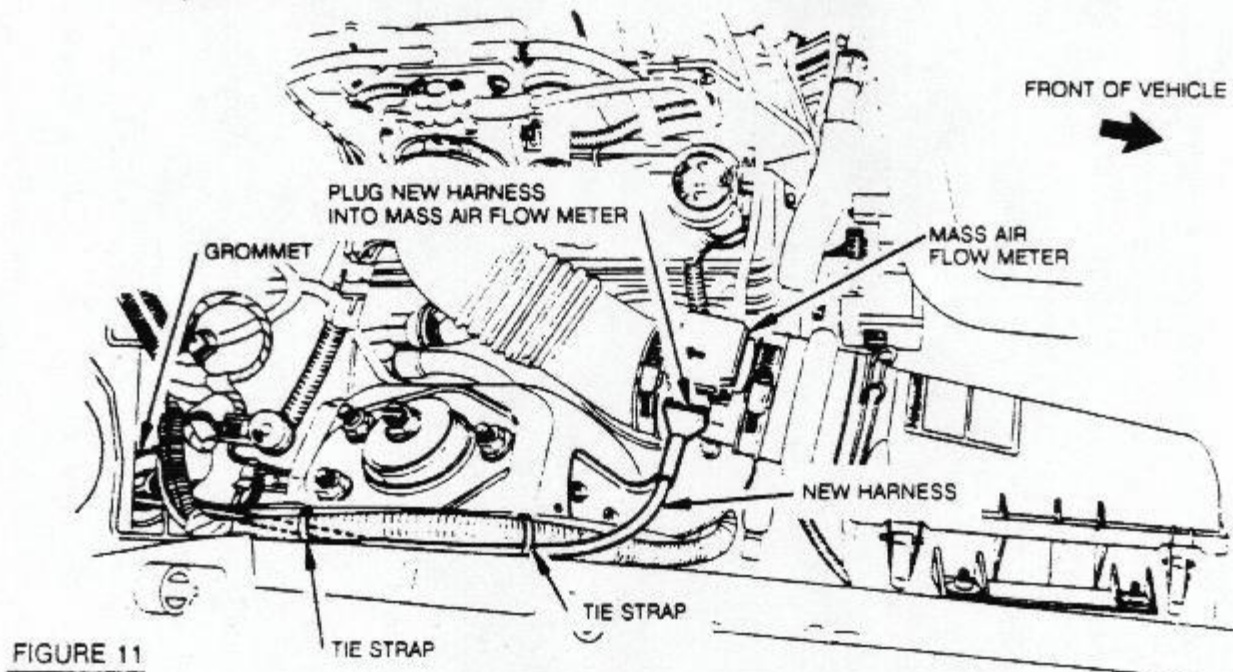

FIGURE 11
STEP 14 Plug new wiring harness in MAF meter connector, route new harness along existing harness to slit in the bulkhead grommet. Tie the new harness in two places. See figure 11.
STEP 16 Locate the Manifold Absolute Pressure (MAP) sensor on the dash panel. Pull off tubing and plug tubing with the straight plastic vacuum connector and vacuum cap provided. Do not plug the map sensor port! See figure 11.